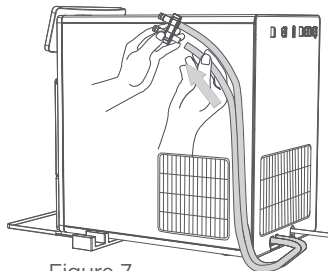

Figure 7
- 1.6 Take down the pipe fastener from the back of the ice maker, and install pipe A to it (see Figure 7).